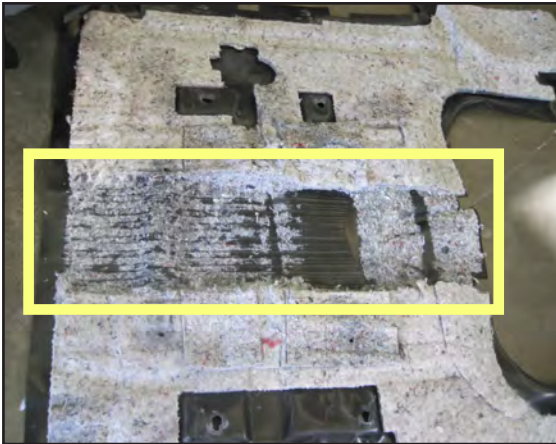

Figure 11. Remove Batting from Floor Mat
13. Cut off the batting in a swath as wide as the cover of the yaw sensor and the entire length, front to back, of the mat (see Figure 11). This will allow the routing of the shorter